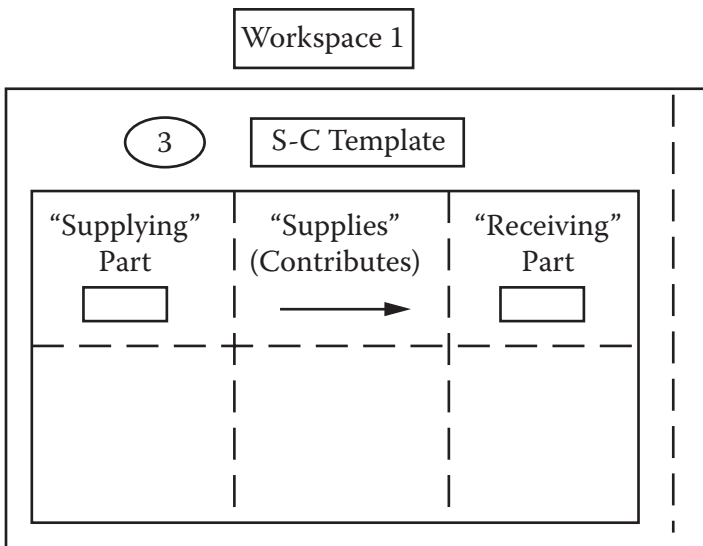

Figure 4.8 Supplier-customer template in workspace 1.
3. Create a S-C template and place it in "workspace 1" (Figure 4.8).